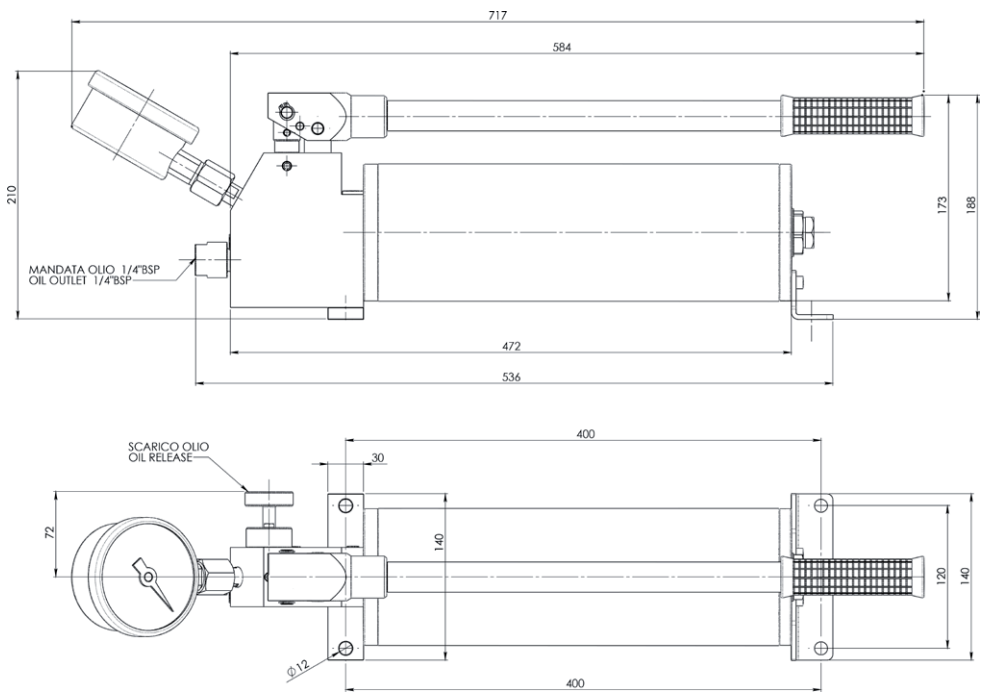

fig.3
Alcune versioni del prodotto possono prevedere la leva di azionamento rimovibile (Fig.3). In tali casi il Cliente dovrà valutare la necessità di garantire sempre la fruibilità della leva, prevedendo gli opportuni accorgimenti, esempio, ancorandola direttamente al prodotto o predisponendo un opportuno alloggiamento in prossimità dello stesso. E' necessario ricordare che, in caso di emergenza, l'unico modo per potere azionare il sistema idraulico, è utilizzando la propria leva di azionamento.
Some versions of the product may provide the operating lever removably (Fig.3). In such cases the customer will evaluate the need to guarantee the usability of the lever, providing suitable precautions, eg, anchoring directly to the product or acquiring a suitable housing in the vicinity of it. E 'must remember that, in case of emergency, the only way to be able to operate the hydraulic system, is using its own operating lever.
Refer to figure 3 for pump dimensions.
- Ensure that the handwheel discharge valve (3) is unscrewed (1-2 maximum turns) by turning it counterclockwise (B) sso that there is no pressure in the circuit and allow the fast coupling to be engaged or the mounting of the flexible hoses to the discharge connection (9).
- Close the handwheel discharge valve (3) by turning it clockwise and tightening , without exaggeration , to proceed to pressurize the circuit.
- Using the actuating lever (8), it is necessary to apply a force F (Figure 3) from the top downwards to pressurize the pump and obtain the movement of the cylinder connected.